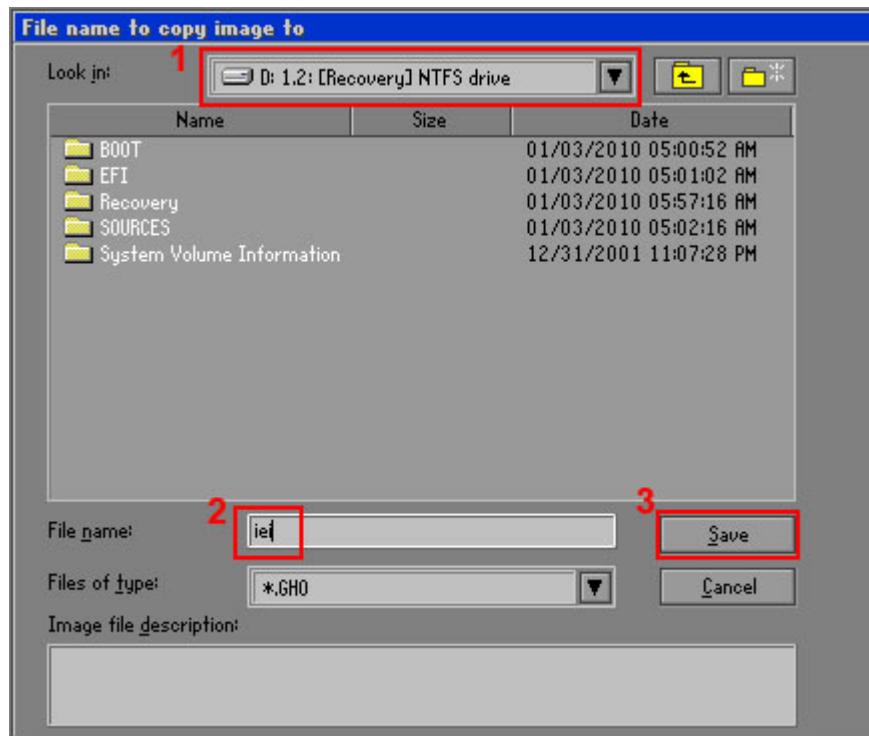

Figure B-16: File Name to Copy Image to
Step 7: Select 1.2: [Recovery] NTFS drive and enter a file name called **iei** (**Figure B-16**). Click **Save**. The factory default image will then be saved in the selected recovery drive and named **IEI.GHO**.